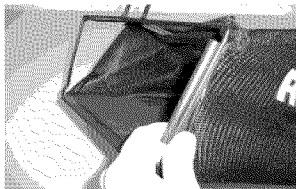

Figure 12 - Attach Clips to Frame
2. Pull cloth bag toward rectangular wire frame opening and attach cloth bag to wire frame with intergrated plastic clips. (see Figure 12).